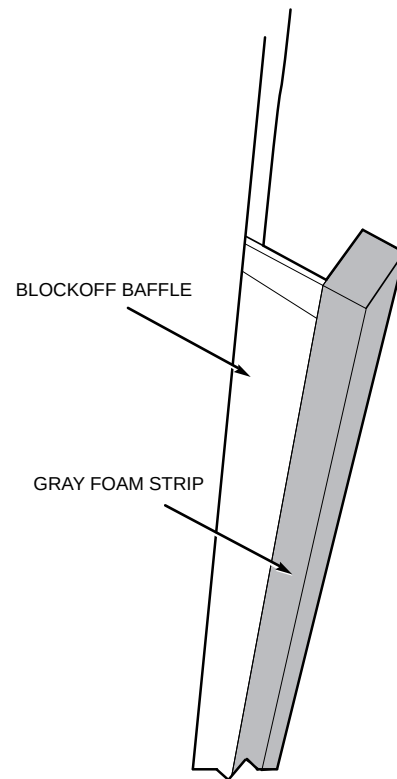

Fig. 24 — Adding Foam Strip to Blockoff Baffle
8. Attach gray foam strip (provided) to block-off baffle on outer face of flange. See Fig. 24.